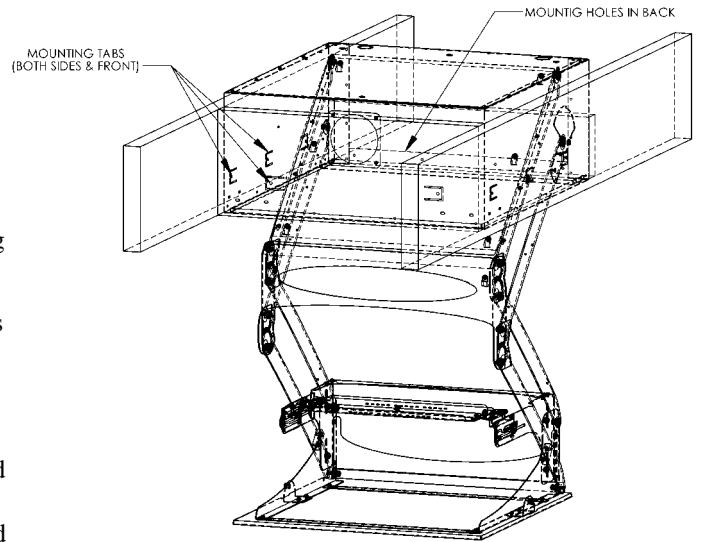
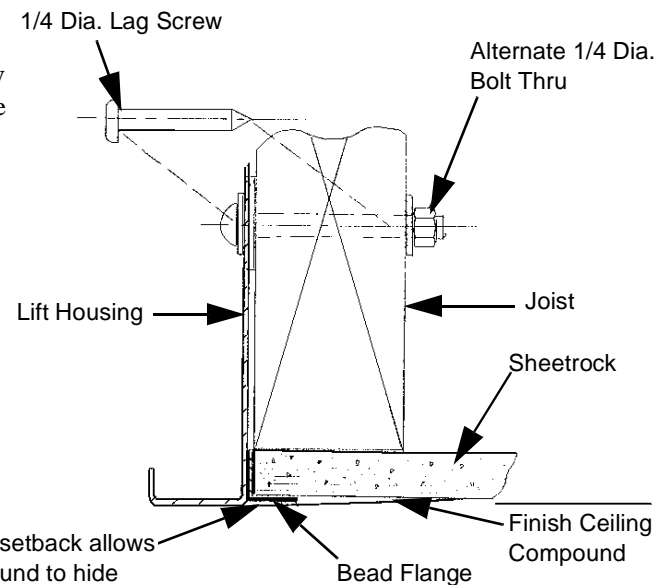

Figure 6. Mounting Locations
Figure 7. Mounting Method
3. Secure the lift to the joists or wood framework. Drive at least six 1/4 x 1-1/4-in. lag screws through the mounting tabs around the inside of the lift housing and mounting holes across the back of the lift. There are 8 tab locations, three in each side and two in one end, and 3 mounting hole locations across the back of the lift (see Figure 6 and Figure 7). The lift requires support on two opposing sides only.